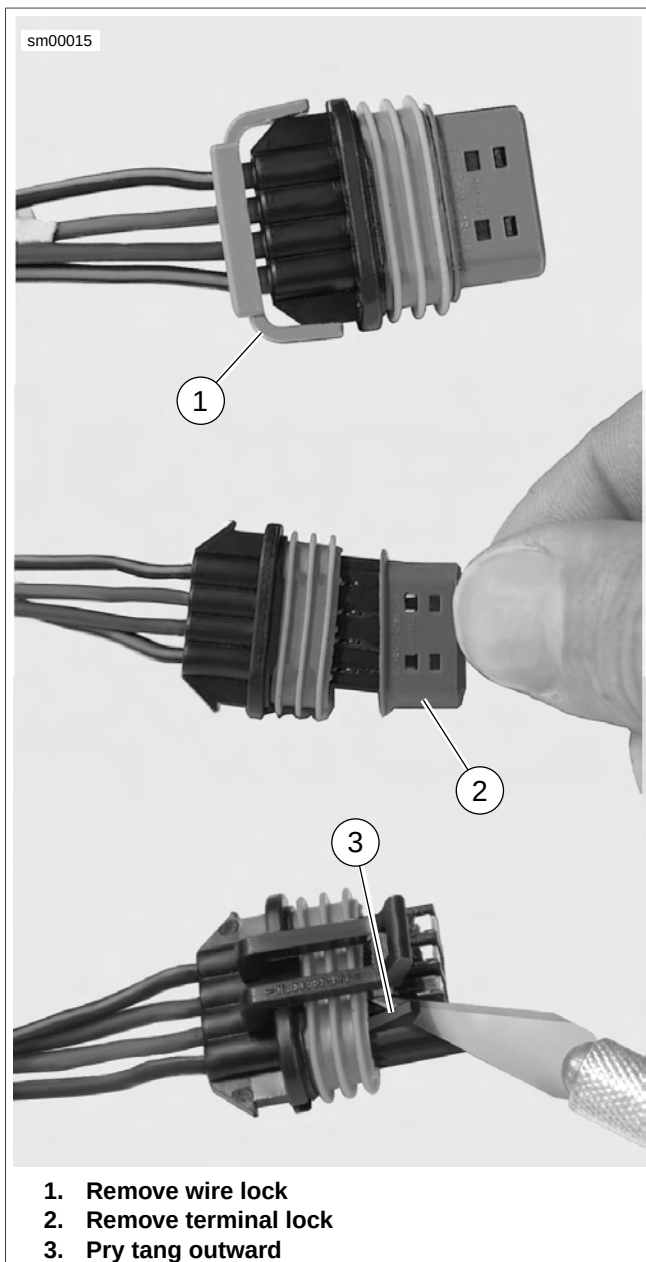

Figure A-21. Delphi GT 150 Sealed Connector: Removing Socket Terminals
1. See Figure A-21. If present, free one side of wire lock (1) from ear on wire end of socket housing, then release the other side. Release wires from channels in wire lock and remove from socket housing.
2. Use a fingernail to pry colored terminal lock (2) loose and then remove from mating end of socket housing.
3. Using a thin flat blade, like the unsharpened edge of a hobby knife, gently pry tang (3) outward away from terminal, and then tug on wire to back terminal out wire end of chamber. Do not pull on wire until tang is released or terminal will be difficult to remove.